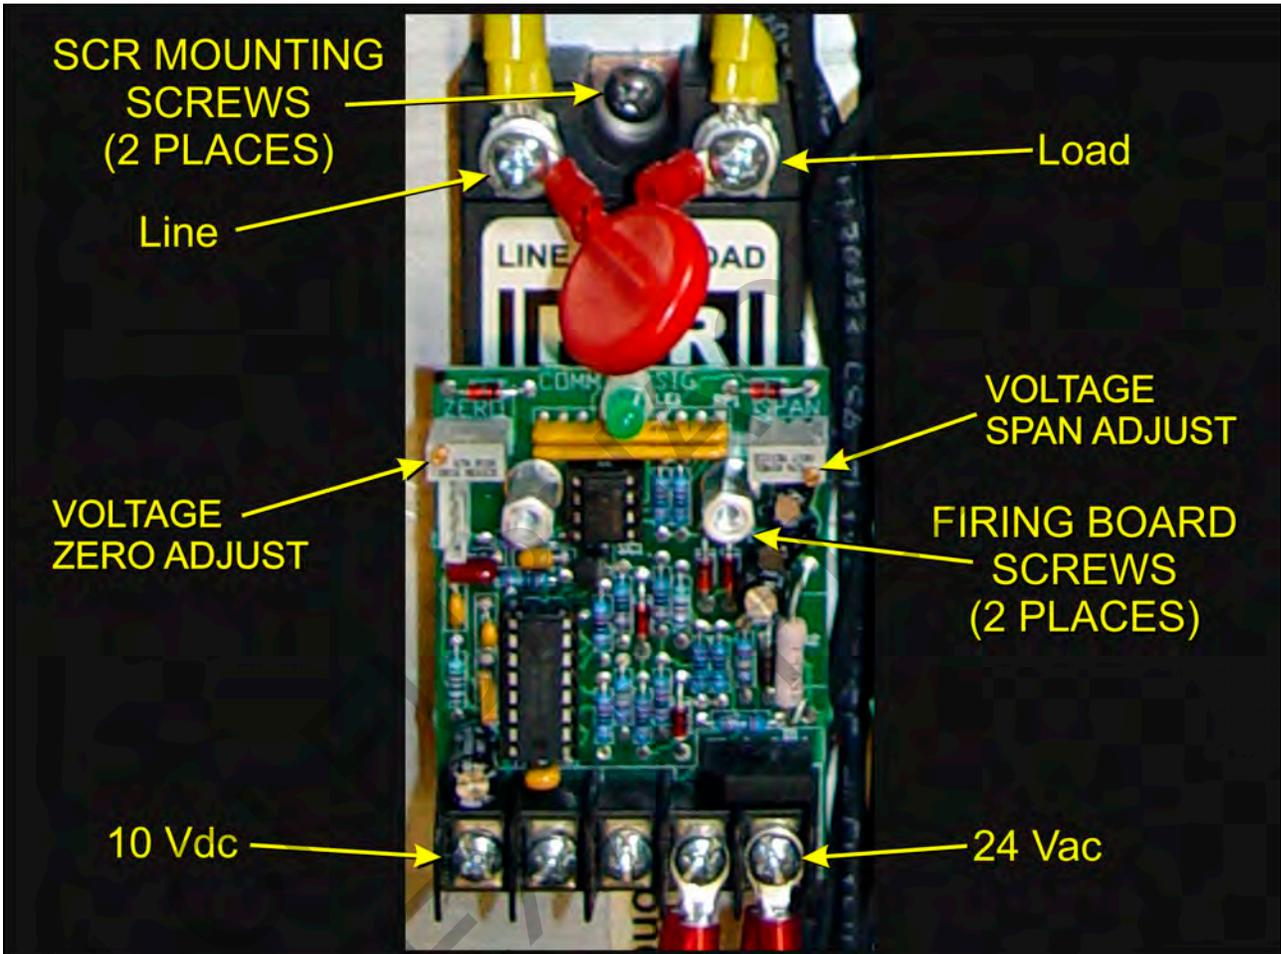

Figure 3-24 SCR installed
To remove the entire SCR assembly, disconnect the 10Vdc and the 24 Vac wire pairs. Unscrew the Line and Load wires. If you are only replacing the firing board, remove the (2) firing board screws. If you are removing the entire assembly, remove the (2) SCR Mounting screws. See **Figure 3-24 SCR installed**
Install an entire SCR assembly, by first checking that thermal paste is applied to the back of the SCR and the heat sink (aluminum plate) in the location where it will be mounted. Screw the assembly to the heat sink. Connect the 10 Vdc control wires, the 24 Vac control voltage wires and the Line and Load wires with red capacitor in place. Make sure the dip switch is set as shown in Figure 3-24. Then follow the procedure on page 3-42, section **3.15.2 Calibrate SCRs** to calibrate the SCR.